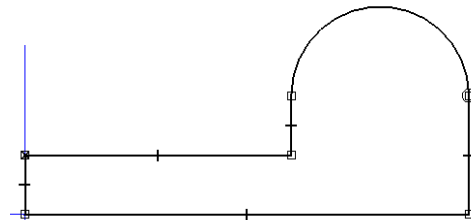

Figure 2-45 Outer loop of the profile for Tutorial 3
12. Click to specify the endpoint of the line when the endpoint relationship handle is displayed. The profile after drawing the outer loop is displayed in Figure 2-45. Next, press ESC to exit the tool.